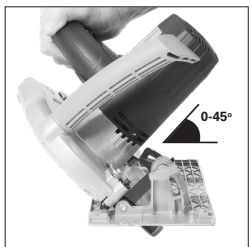

Fig. 7
- Tilt the blade to the required angle **(Fig. 7)**.